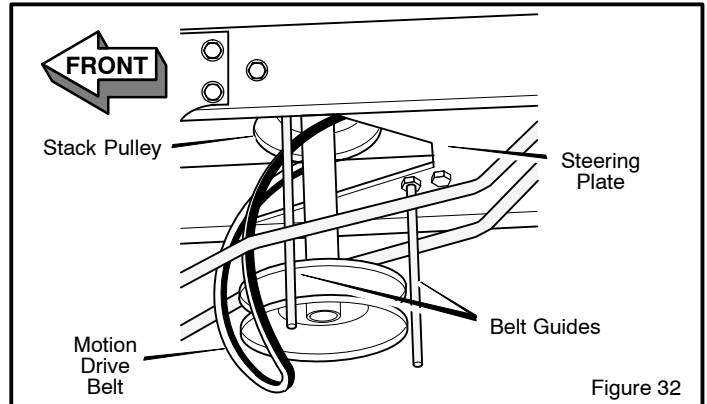

Figure 32
7. To remove the **motion drive belt** from the **stack pulley**, pull the front end of the belt under the **stack pulley** and then back between the stack pulley and the **steering plate** (Figure 32).
1. Slide the **motion drive belt** between the **stack pulley** and the **belt guides** (Figure 32). Install the **motion drive belt** on the top pulley of the **stack pulley**. Make sure the "V" side of the belt is against the pulley.